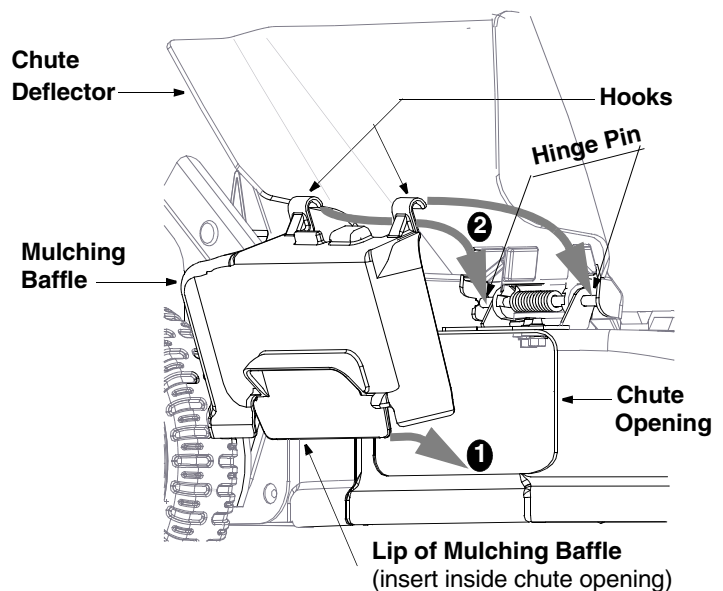

Figure 6
2. Insert bottom lip of the mulching baffle **inside** the chute opening (marked 1 in Figure 6).
3. Snap hooks of the mulching baffle over the hinge pin of the chute deflector (marked 2 in Figure 6). The hooks must snap into place on the hinge pin, locking the mulching baffle firmly onto the mower. Release the chute deflector.